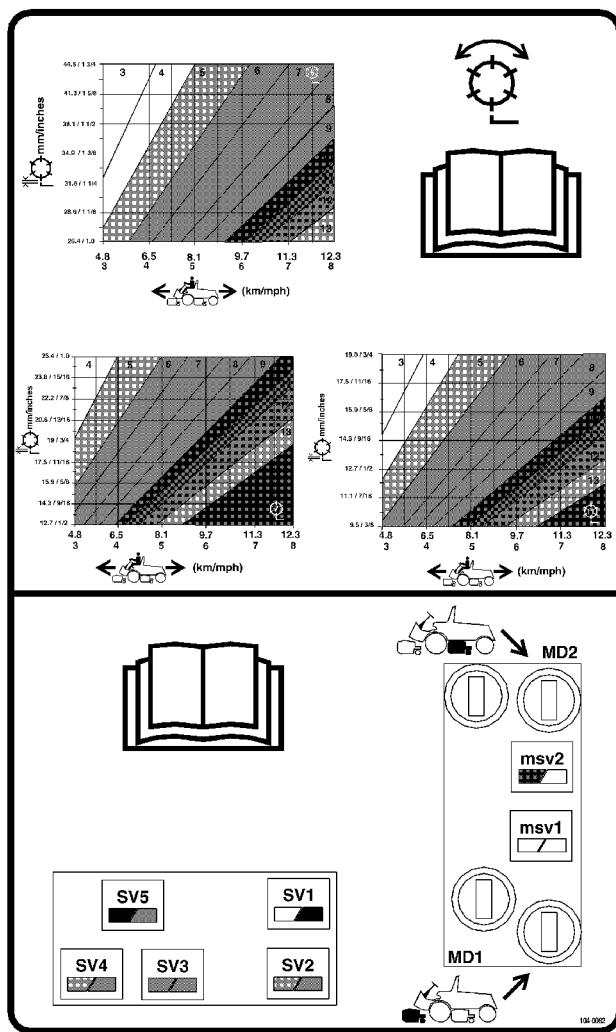

Figure 28
3. Using the appropriate graph (See graph figure 28) for 5, 7 or 11 blade cutting units, determine the proper reel speed setting.